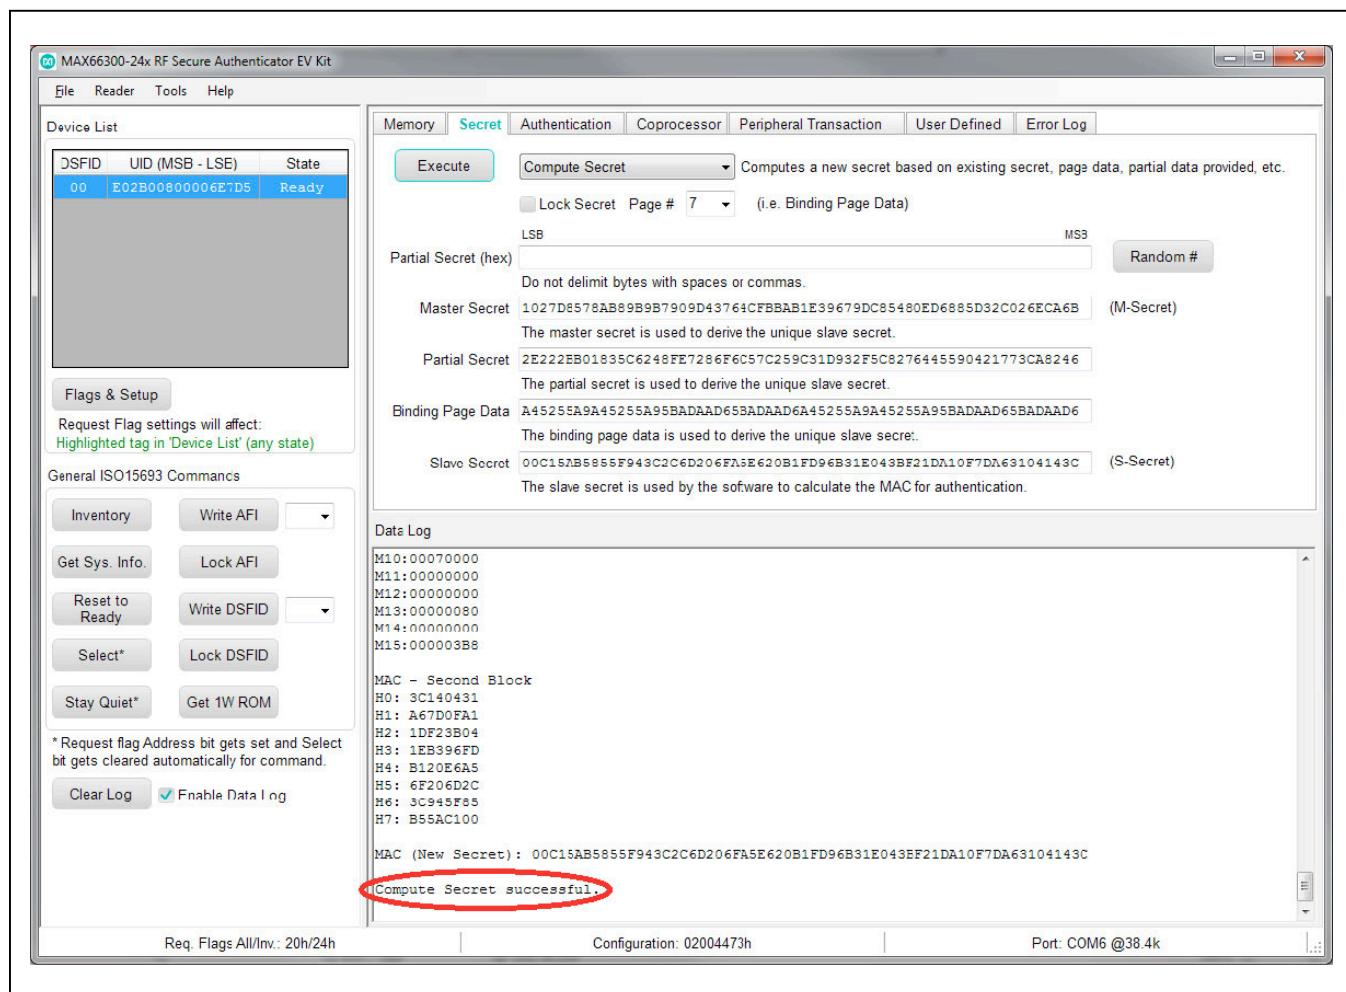

Figure 17. Compute Secret Success
- 13) Confirm the “Compute Secret successful” message displays in the **Data Log** box (Figure 17). **Note:** The **Partial Secret** random number moves to the **Partial Secret** field. The MAX66242 page 7 displays in the **Binding Page Data** field. The purpose of this is to show how the slave (i.e., MAX66242) contains a formed unique S-Secret derived by the M-Secret,